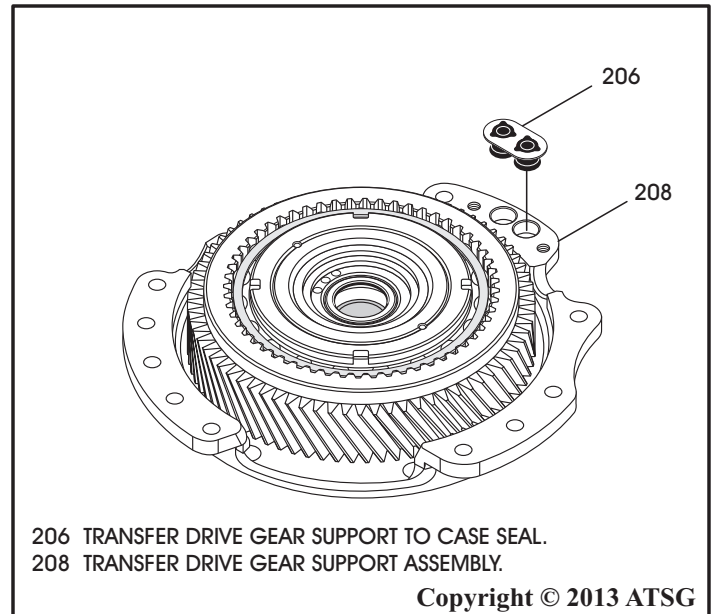

Figure 110
19. Install a new transfer drive gear support to case seal, as shown in Figure 110.